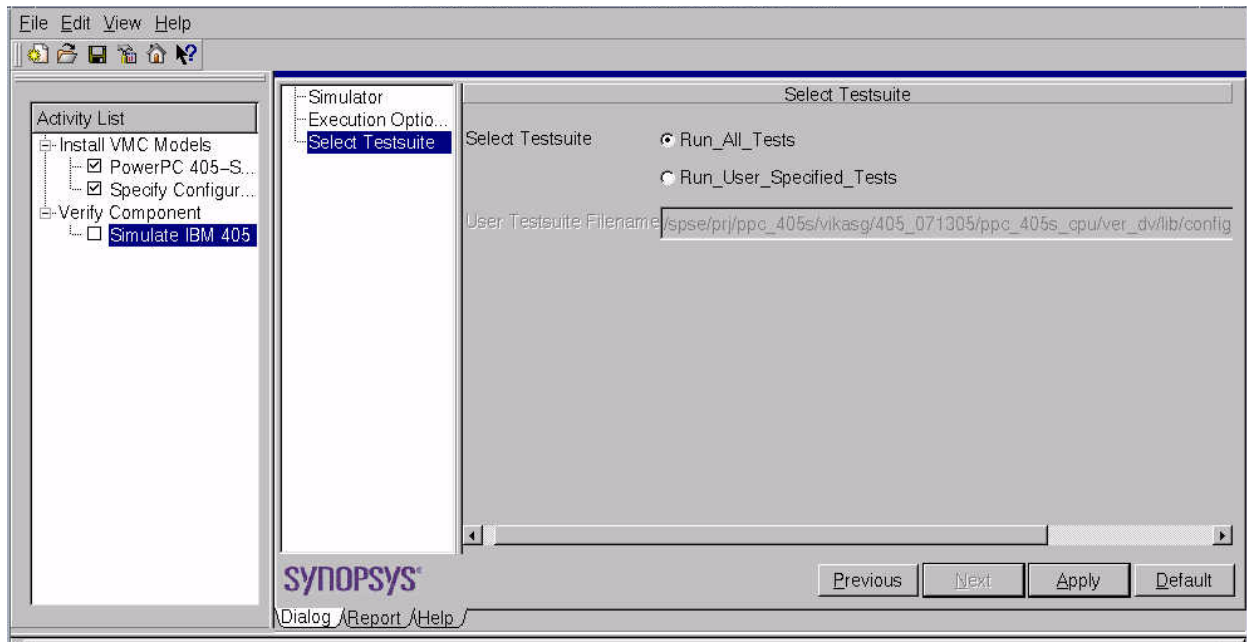

Figure 9: Simulate Dialog – Test Selection
Using the coreConsultant test selection dialog (Figure 9), you can select to either run all of the provided test programs (the default selection) or just execute selected individual tests (**Run_User_Specified_Tests** option).
3. In the Testsuite Selection dialog (Figure 9), select **Run_User_Specified_Tests** and enter the file name (including full path) of your custom test list file. The default is `<workspace>/sim/userlist`.